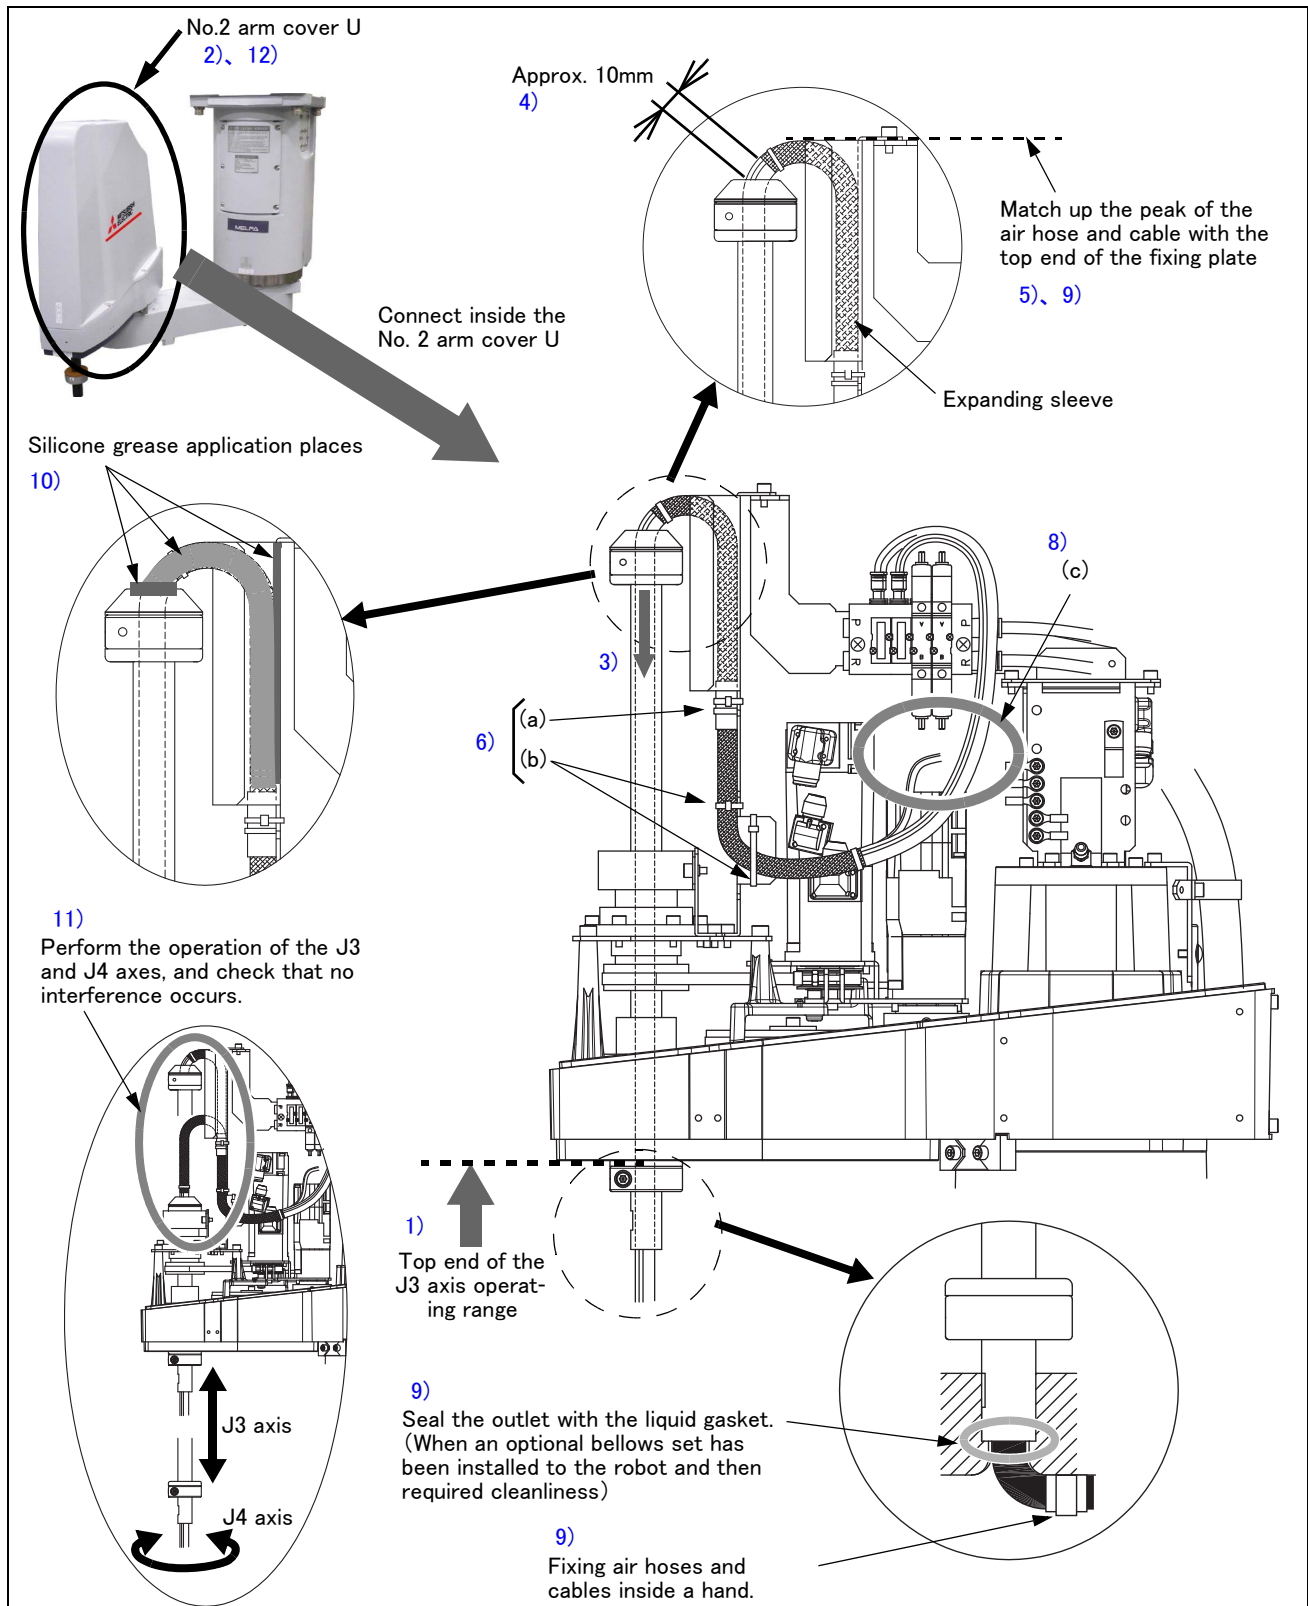

Fig.2-11 : Installation of air hoses and cables inside the robot's shaft
Refer to Page 20, "(3) Installation procedure" and install cables and air hoses correctly. The numbers in Fig. 2-11 are correspond to the same numbers in "(3) Installation procedure".